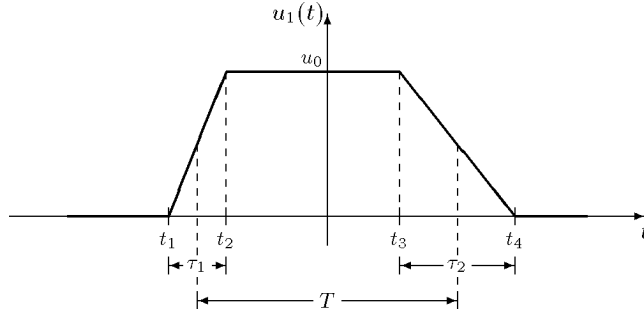

Figure 12-5: Ramp pulse
4. Ramp pulse      **RAMPE / RAMP** (see figure 12-5)